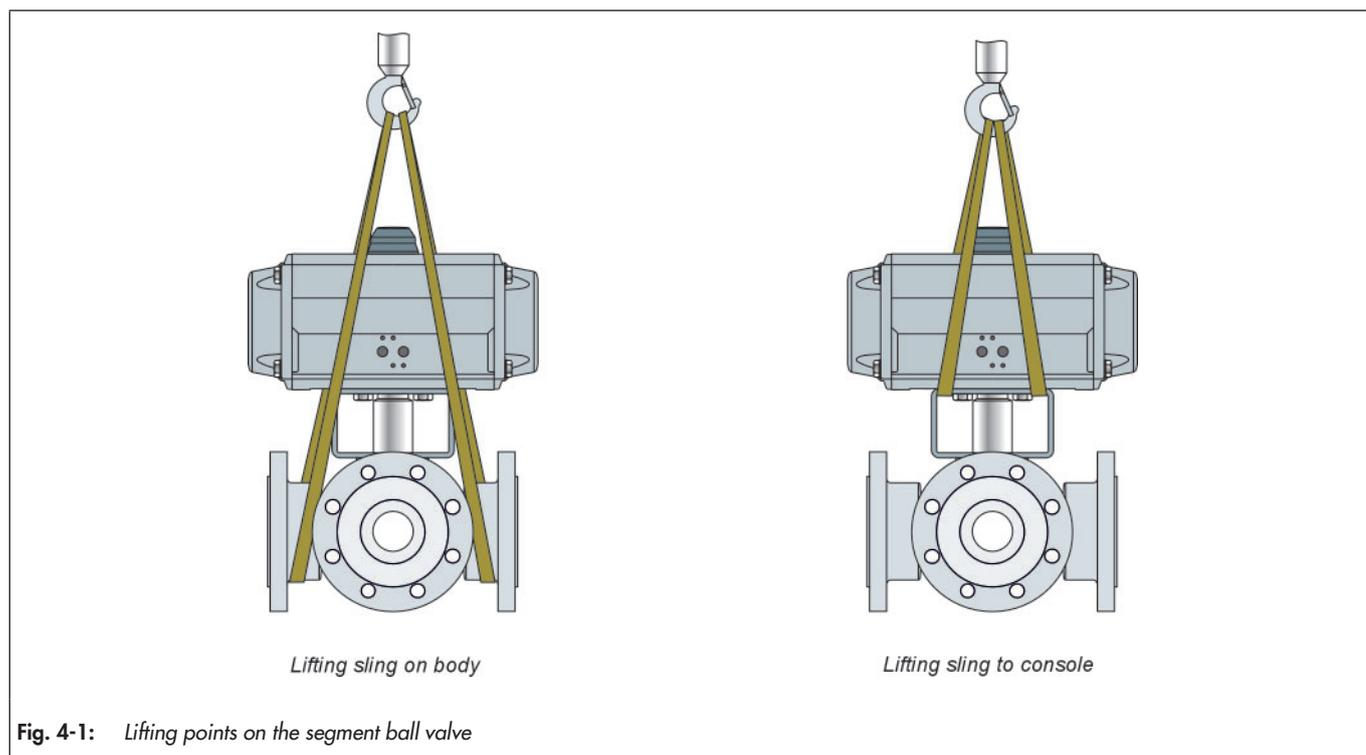

Fig. 4-1: Lifting points on the segment ball valve
- ⇒ Use a hook with a safety clamp as the suspension element so that the sling cannot slip off the hook during lifting and transport, see Fig. 4-1.
- ⇒ Fasten a lifting sling to each flange of the housing and on the suspension element (e.g. hook) of the crane or forklift, see Fig. 4-1. When doing so, ensure the safety, bearing capacity and length of the lifting slings
- ⇒ Fasten a lifting sling to the bracket and the suspension element (e.g. hook) of the crane or forklift, see Fig. 4-1. When doing so, ensure the safety, bearing capacity and length of the lifting slings.